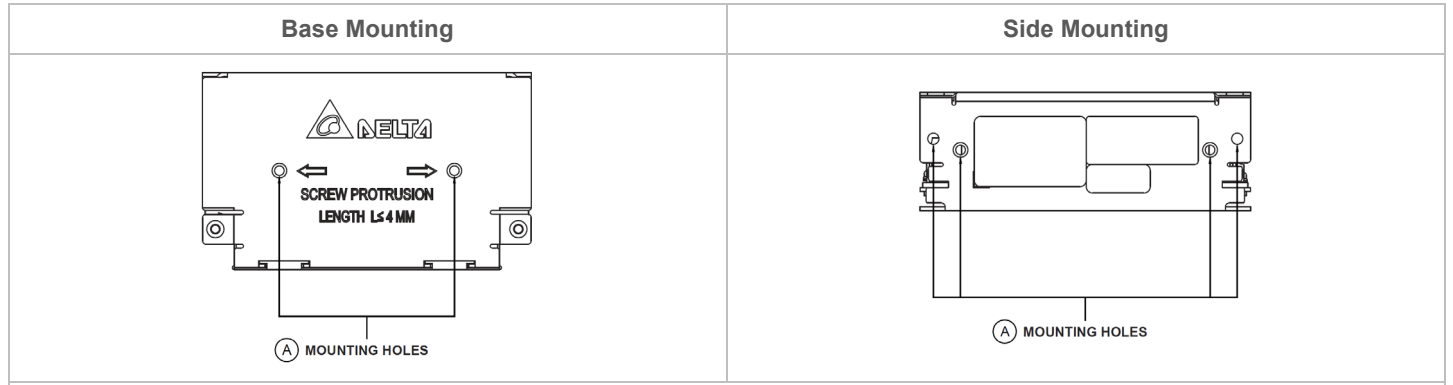

Fig. 5.1 Mounting Hole Locations
- The power supply shall be mounted on a sturdy heat conducting surface with minimum of 2 mounting holes (Fig. 5.1, (A)) for base mounting or side mounting. Use M3 screws only. The screw penetration into the chassis must be 3.5-4mm. For the other mounting holes without screw threads, please use suitable screw and nut.